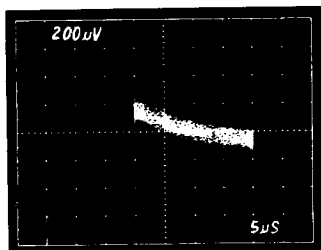

Figure 12. Dielectric Absorption
During  $T_B$ , the CONTROL line is high, the AD1154 is in the sample mode and the analog input charges the hold capacitor to +10 V. During  $T_C$  the analog input to the SHA is switched to ground, effectively shorting the hold capacitor for the remainder of the sample period. During  $T_A$ , the SHA is switched into hold mode and the hold capacitor is open circuited. The dielectric rebound can be observed on the oscilloscope during  $T_A$ . Refer to Figure 12.
3. Pick  $(R_1 || R_2) \cdot C_1$  to be equal to the approximate time constant ( $T_{const}$ ) of the dielectric rebound on the oscilloscope (see photo in Figure 12).